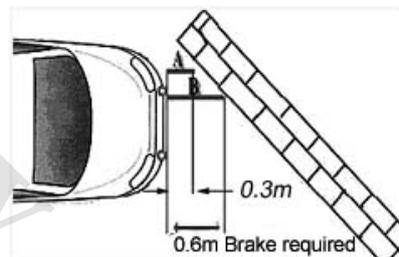

Fig. 4-114
(8) As shown in Fig. 4-114, when driving approaching the wall, warning mistake is caused by inaccurate distance detecting